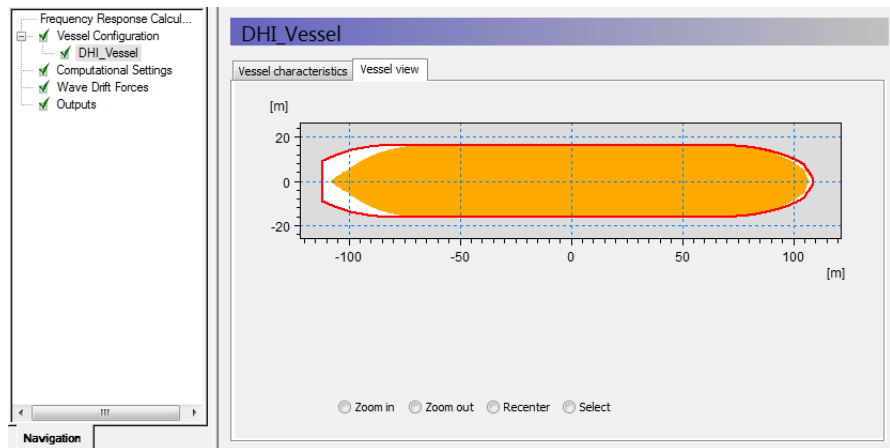

Figure 3.5 Displaying vessel
While the draft plays a crucial role in the computation of the frequency response data of the floating vessel, the deck plane height does not play any role: The deck plane height only determines the displayed deck plane contour on the graphical plots of the vessel (red contour), and is only included as a tool allowing inspection of the planar (XY) extent of the vessel at a particular height above the keel, see Figure 3.5.
The purpose of the plot under Vessel view is give an insight into what the spatial picture looks like, where these two contours are relative to each other., as shown in Figure 3.5.